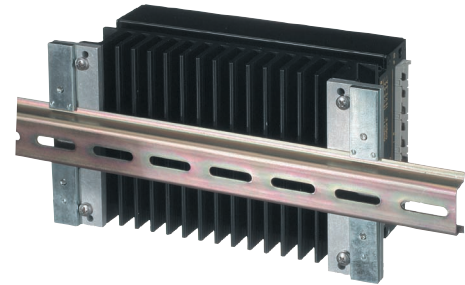

Fig. 47
- DIN-rail mounting assembly HZZ0615-G (DMB-K/S); see fig. 47